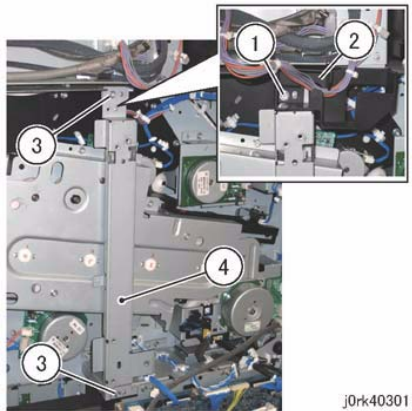

Figure 1 Tie Plate Removal
3. Remove the Tie Plate. (Figure 1)